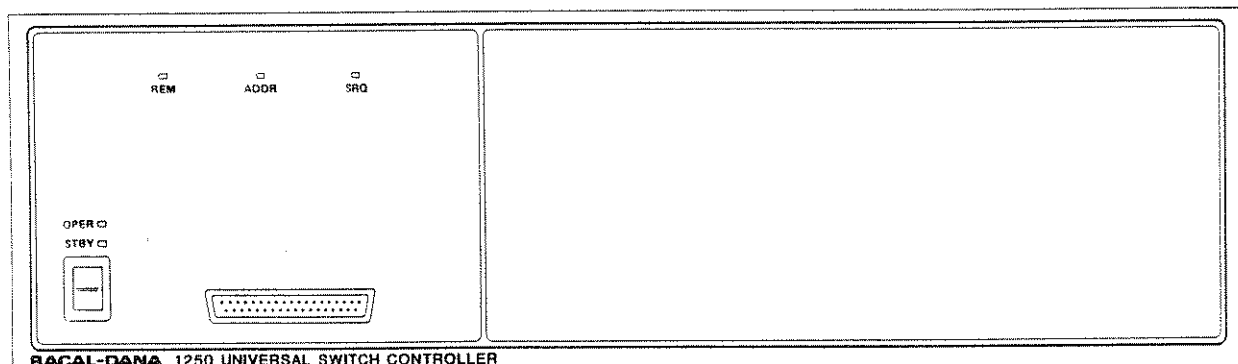

Figure 1-1, 1250 Front Panel
1.2.2 The 1250 is designed for use in automatic test systems, but local control of the switching system is supported by Option 90, which supplies an intelligent front panel with a display and keyboard. Refer to Figures 1-1 and 1-2 for illustrations of the 1250 front panel and Option 90, the intelligent front panel, respectively.